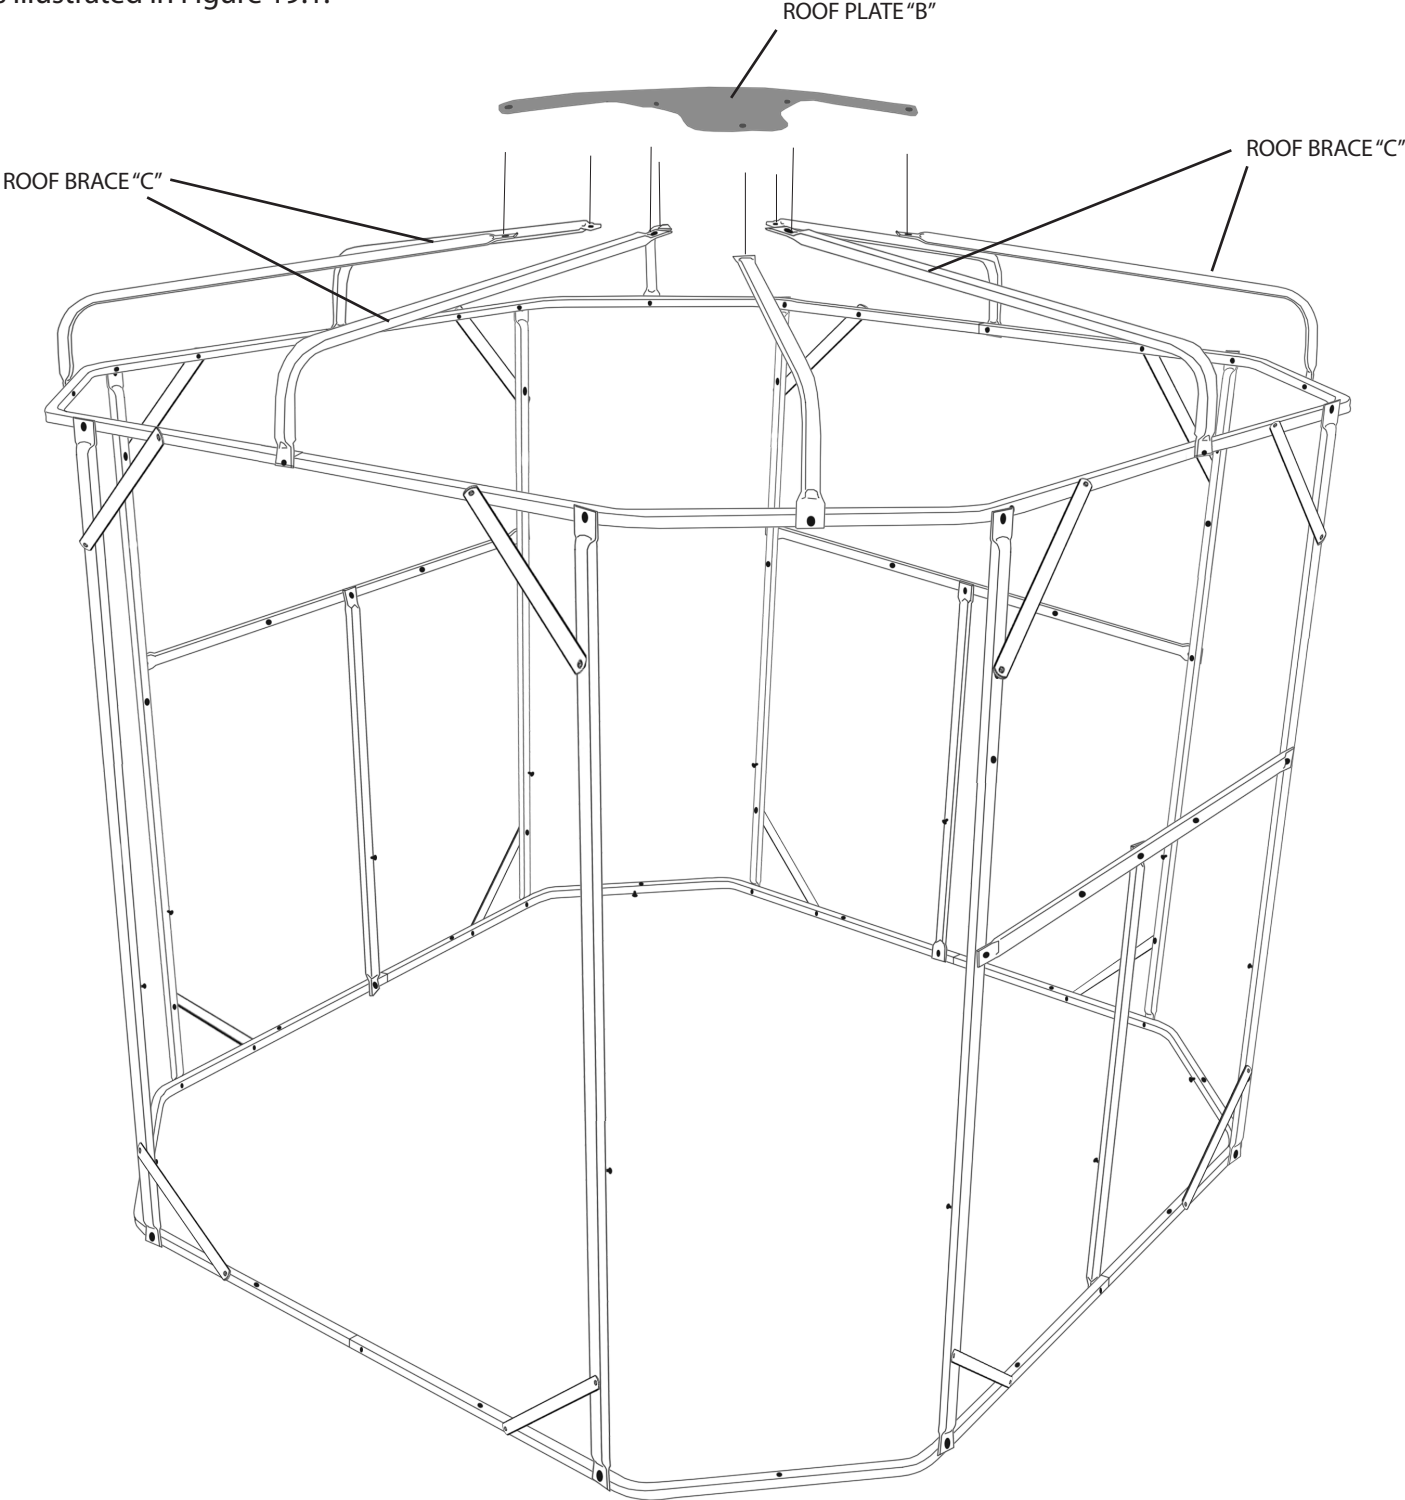

Figure 19.1
STEP 11: Locate the (1) ROOF PLATE "B". Using (16) 3/4" BOLTS & (16) NUTS attach the (1) ROOF PLATE "B" to the (8) ROOF BRACES "C", as illustrated in Figure 19.1.
NOTE: The ROOF PLATE "B" will be fastened to the top of the (8) ROOF BRACES "C", on what would be the exterior of the blind, as illustrated in Figure 19.1.